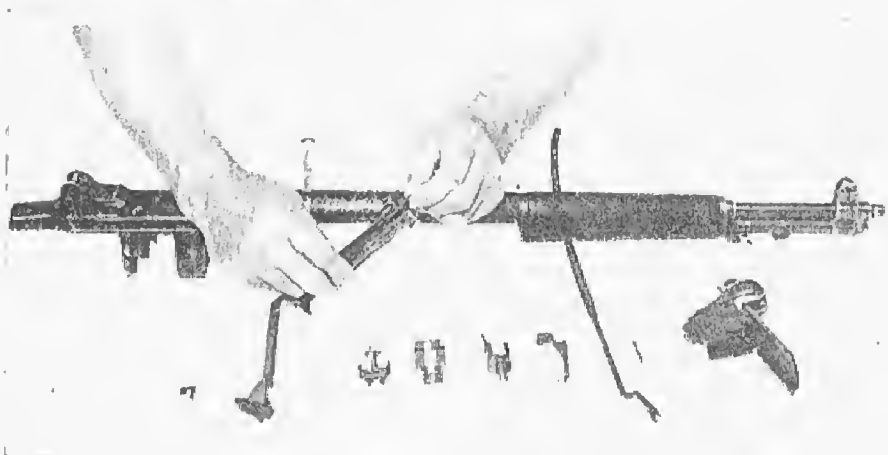

Figure 4. Removing Extractor Spring and Plunger
(3) (Plate 11, Figure 4.) Tap the bolt gently until the extractor spring and plunger are unseated. Remove both parts, but do not separate.